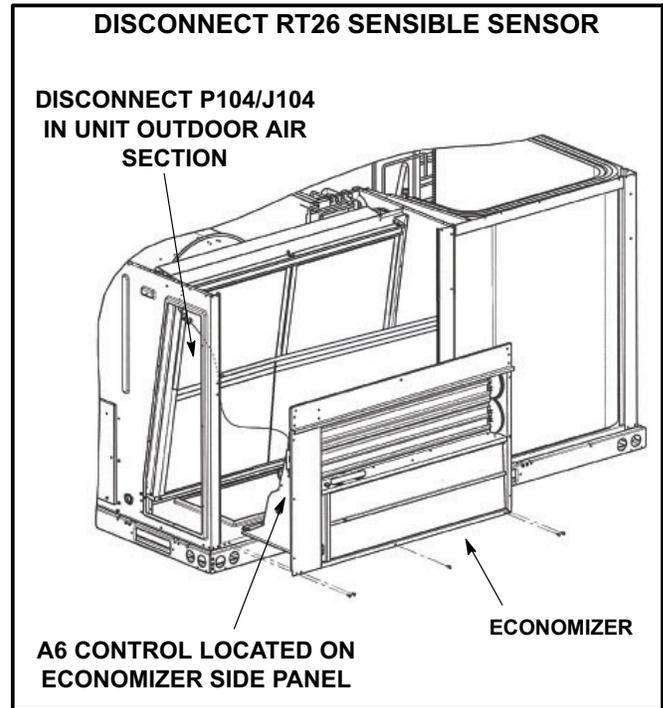
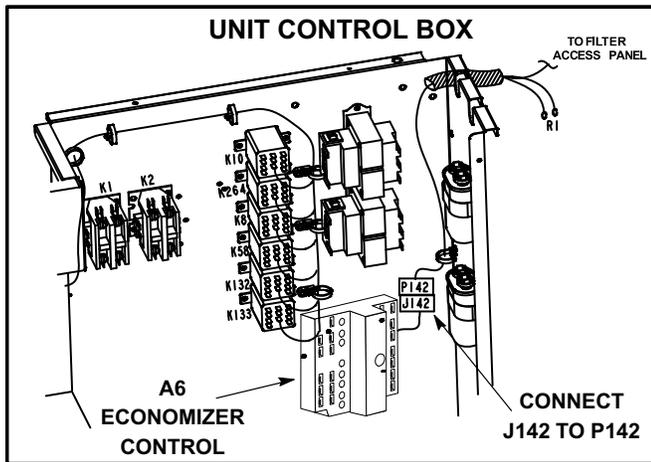

FIGURE 3
FIGURE 2
- 3- Disconnect P104/J104 connector located near economizer actuator and discard single sensible sensor RT26 and wiring. See figure 3 and 5.
- 6- Remove the A6 control from the economizer side panel. See figure 3 and 4. Install the A6 control in the unit control box. See figure 2. Connect A6 control J142 to unit P142 hanging in the control box area.